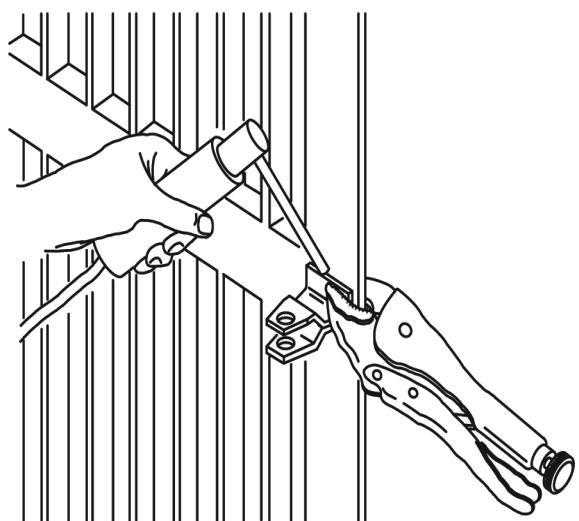

Fig. 5
K) Remove the operator from its temporarily and permanently weld the front attachment on the wing(Fig. 5);